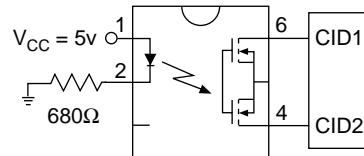

Figure 2. Caller ID Connection
**Caller ID Circuitry (optional)** – The Cybergate includes two Caller ID signals, CID1 and CID2, for Caller ID applications. These two signals should be connected across a 1-Form-A solid state relay (CP Clare LCA110) which is controlled by the host microprocessor or related circuitry as shown in figure 2.